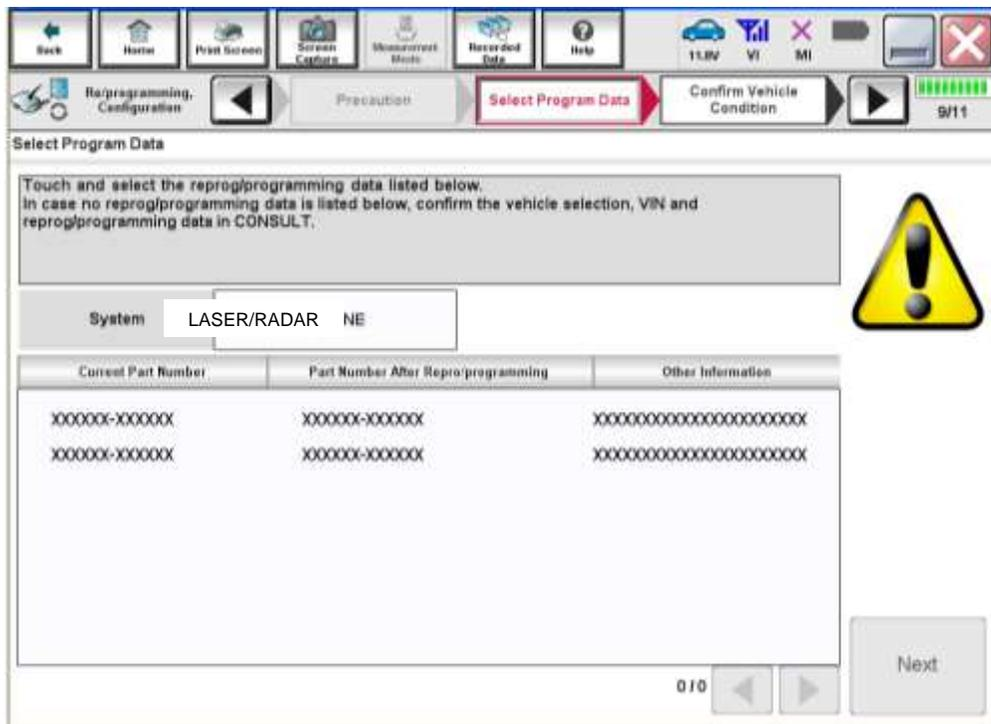

Figure 14
- If more than one new P/N is available, the screen in Figure 14 displays.
- If you get this screen in Figure 14 and it is blank (no reprogramming listed), it means there is no reprogramming available for the Laser/Radar control unit in this vehicle. Proceed to **ICC/ADAS Reprogramming** on page 21.